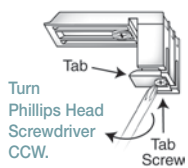

Figure 1
- Make sure tab screw is loose, and tab is hanging freely (Fig. 1).